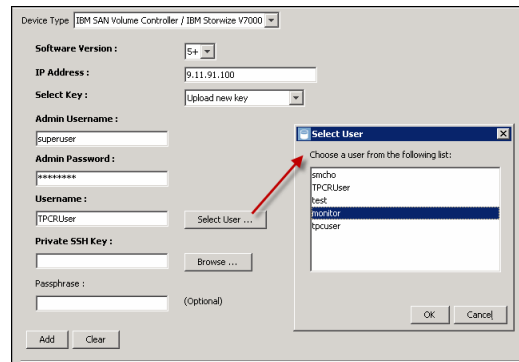

Figure 12-44 Select User window
6. Click **Select User** to retrieve the list of users (Figure 12-44). For this example, choose the **monitor** user. Click **OK**.